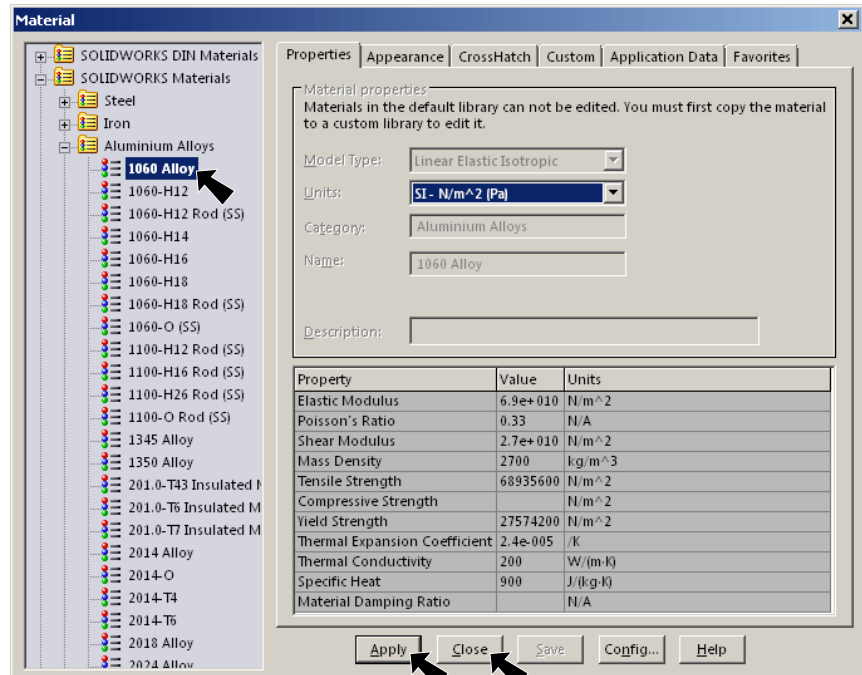

Fig. 12
- Step 2. Expand Aluminum Alloys in the material tree and select 1060 Alloy, Fig. 12. Click Apply and Close.